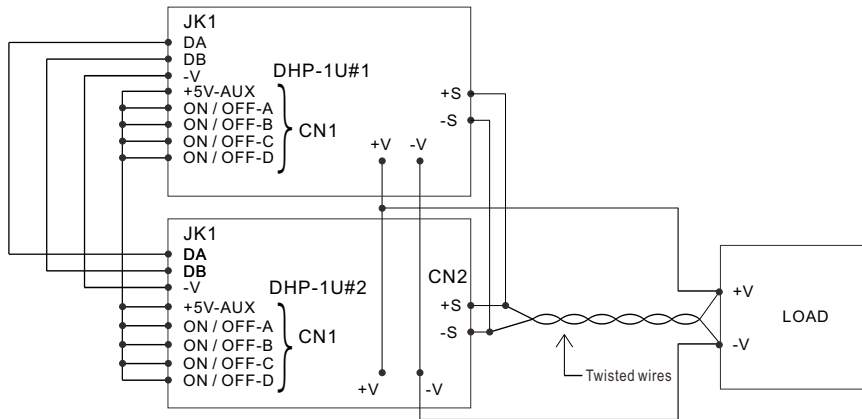

Figure 3-8 Configuration of two rack shelf units in parallel
- ◎ Configure rack shelf units in parallel before connecting to the load. Do not connect rack shelf units to the load separately. Refer to Figure 3-8
- ◎ Control singles of DA, DB and -V should also be connected in parallel. (Refer to Figure 3.8).
- ◎ Use twisted wires for the wiring of +S and -S, the twisted wires should not touch the load wires to avoid interference. Refer to Figure 3-8.